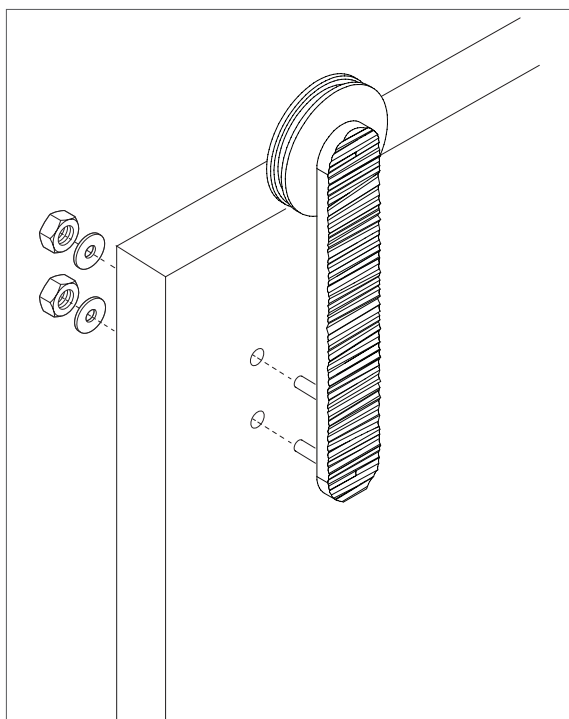

Figure 5
9. Install the hangers to the front of the door using hex nuts and washers (provided). (Figure 5).